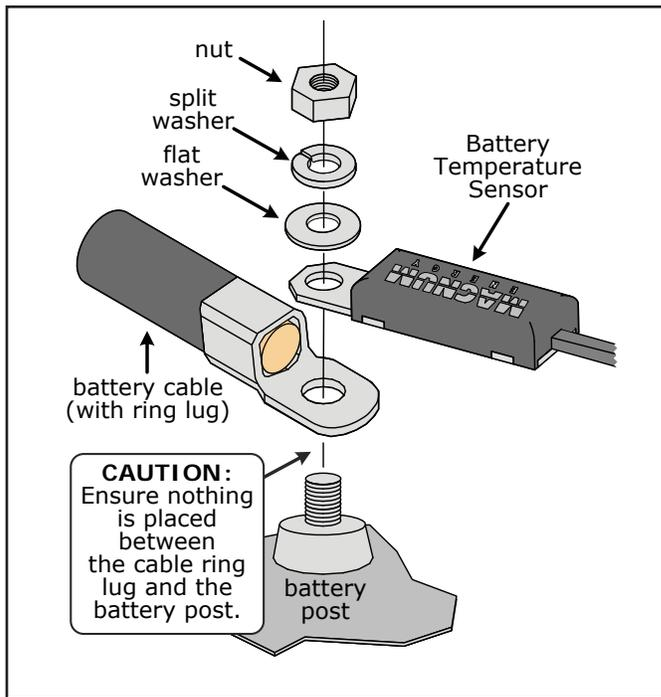

Figure 2-5, Battery Hardware Installation
Refer to Figures 2-5 and 2-6 to connect the DC cables and to stack the hardware correctly. Tighten the terminal connections from 13.6 to 16.3 N-m (10 to 12 ft lbf).
1. Attach the ring terminal end of the Battery Temperature Sensor to the negative battery terminal; see Figure 2-5 for proper connection to the battery terminal.
Ensure the DC wire connections (on the batteries, inverter, and DC circuit breaker/fuse lugs) are flush on the surface of the DC terminals, and the hardware (lock washer and nut) used to hold these connections are stacked correctly (Figures 2-5 and 2-6).